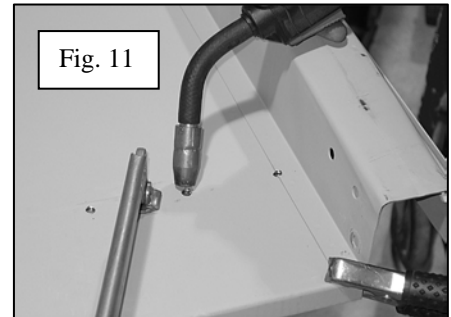
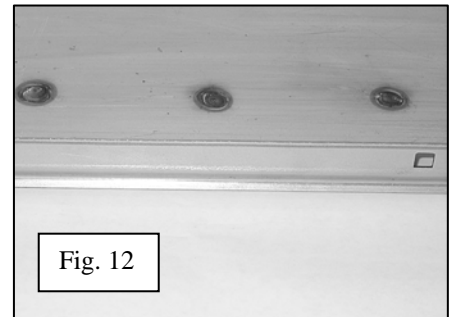

Fig. 11
Fig. 12
6. To do a plug weld of two pieces of sheet metal, there is a hole in one of them and the parts are welded together by clamping the two pieces together and welding through the hole. In this case, the angle is welded to the bed side by welding through the 1/4" holes drilled in step 3 above as shown in figure 11. The holes are filled with the weld puddle until they are level or slightly higher than the bedside metal. See figure 12. Lay the bedside horizontal and use plenty of weld heat to get the best weld strength and uniformity. Welding should begin in the center area of the bedside and progress alternately toward each end of the bedside. Be sure the bedside is supported level during the welding process. If you are not experienced with plug welding, it is recommended that you use some scrap 16 gage sheet metal to practice and develop the proper technique and welder settings.